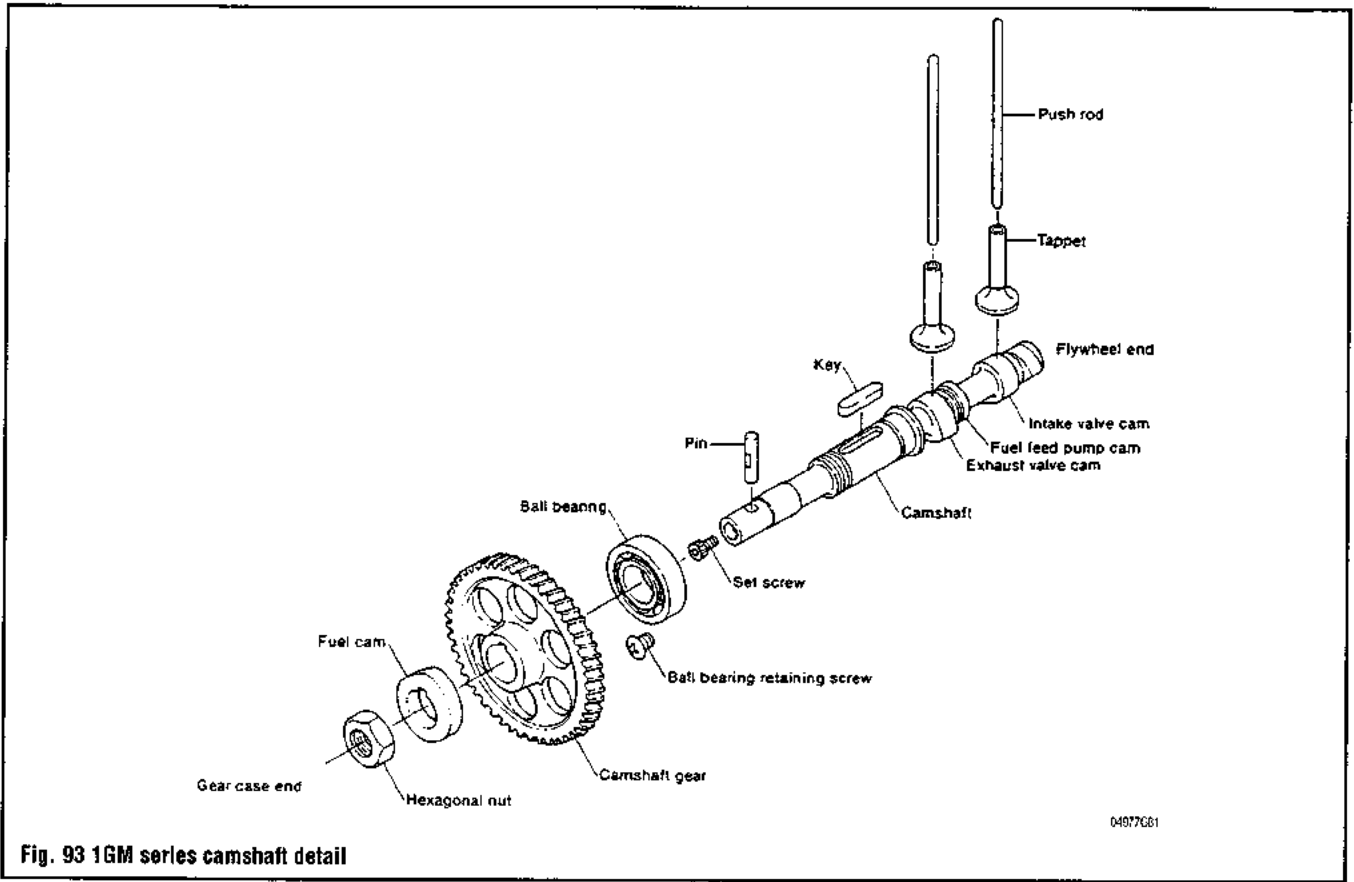

Fig. 93 1GM series camshaft detail
▶ See Figures 93, 94, 95 and 96